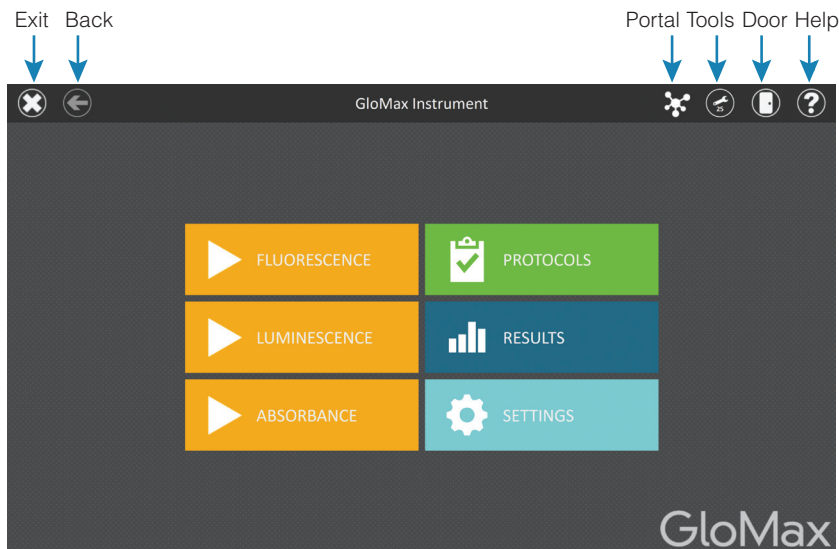

Figure 6. GloMax® Explorer software 'Home' screen.
2. Shut down the GloMax® Explorer Software by tapping on the **x** in the upper left corner (Figure 6).
1. Open the Door of the instrument by tapping the **Door** icon on the top right corner of the screen (Figure 6). When the plate tray extends, add the plate such that well A1 of the plate corresponds to the label "A1" on the plate tray (Figure 7).